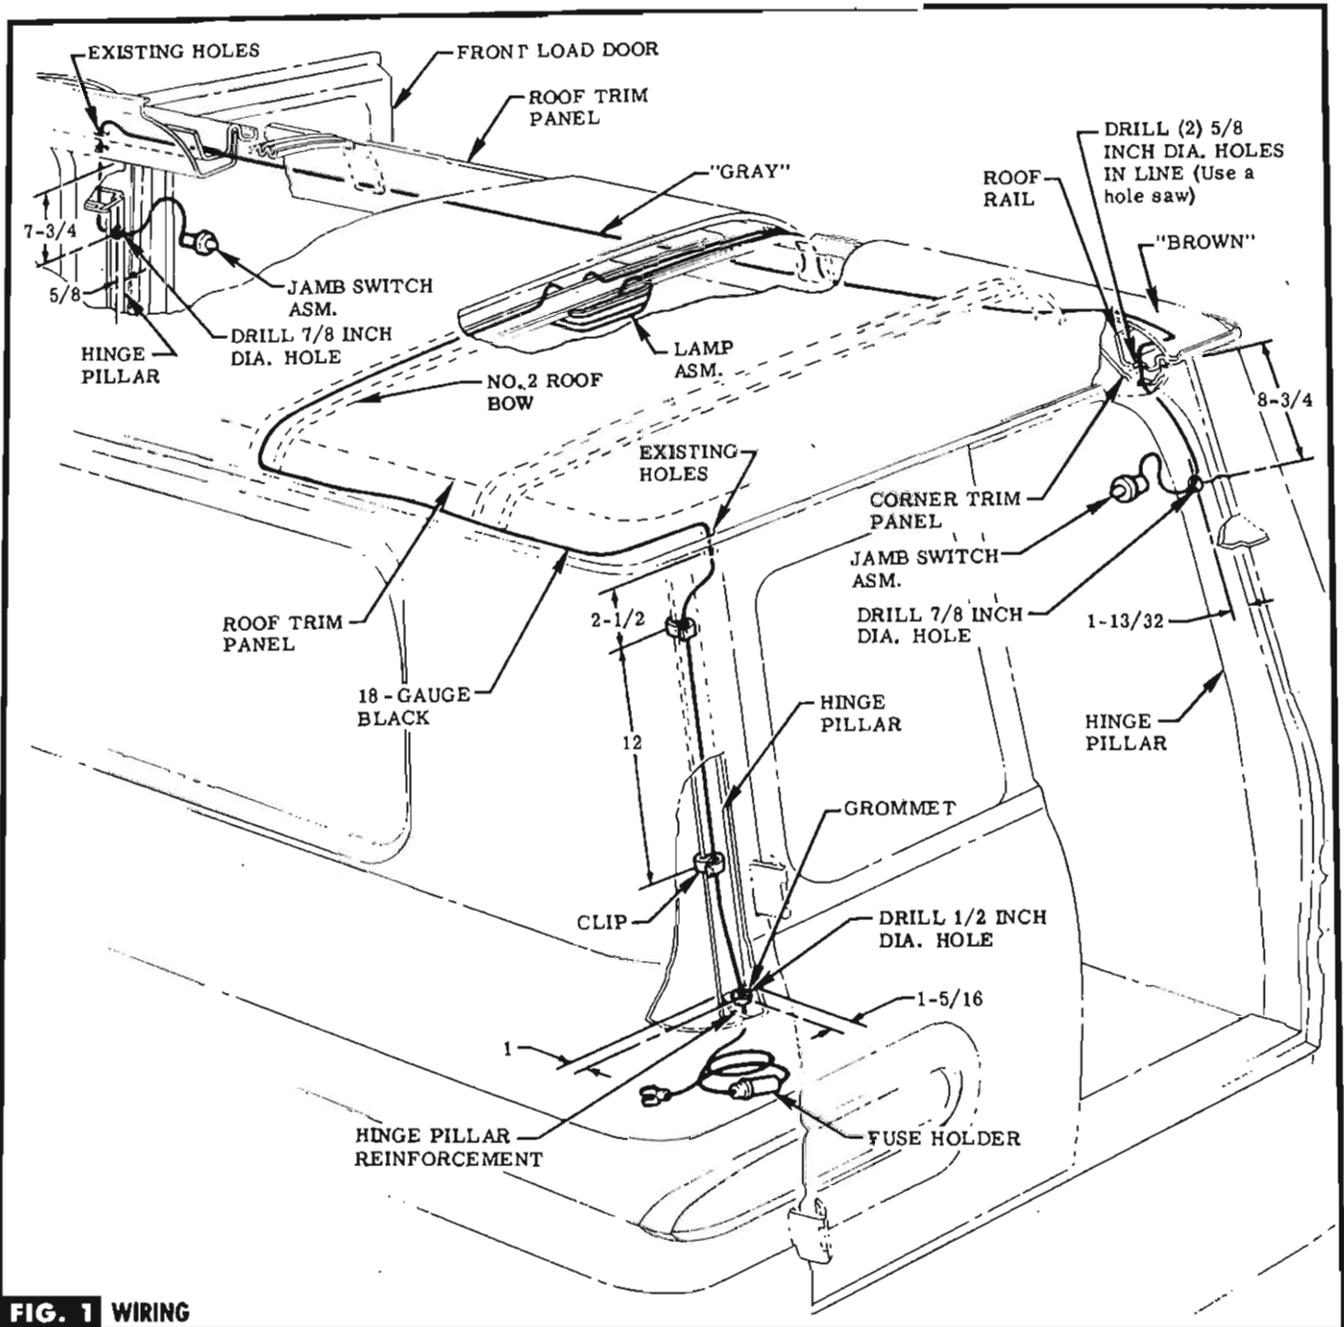

FIG. 1 WIRING
STEP 2 LOCATE, CENTER PUNCH, & DRILL HOLE IN L. H. REAR DOOR HINGE PILLAR REINFORCEMENT. SEE FIG. 1.
STEP 3 PUSH BARE END OF WIRE ASM. THRU GROMMET & SLIDE GROMMET ALONG WIRE TO A POINT ABOUT (12) INCHES FROM FUSE HOLDER. THREAD BARE END OF WIRE THRU DRILLED HOLE FROM UNDER REINFORCEMENT. THEN CLIP WIRE TO PILLAR & ROUTE TO FRONT OF SECOND ROOF BOW FROM REAR. SEE FIG. 1. USE STIFF WIRE TO ASSIST ROUTING THRU HOLES & AROUND CORNERS.
STEP 5 LOCATE, CENTER PUNCH, & DRILL HOLES IN R. H. FRONT LOAD DOOR & R. H. REAR DOOR HINGE PILLARS. SEE FIG. 1.